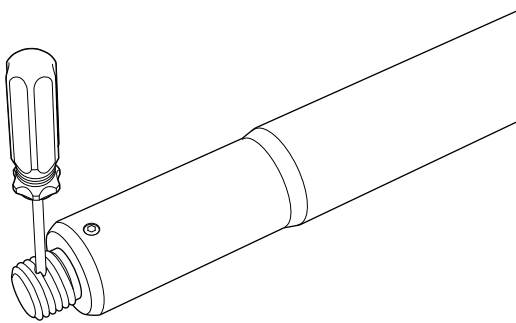

Figure 23: Inserting Screwdriver to Remove M20 Lug
3. Loosen the M20 lug by rotating counter-clockwise (inserting a screwdriver through the lug can help with this process, see Figure 23) and remove it.